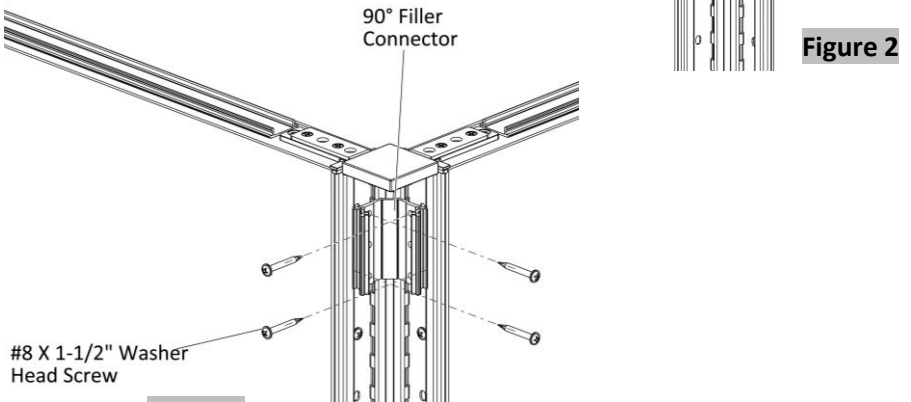

Figure 2
3. Position the 90-degree top connector with a cap on the top corner of the panel which is to be connected, (Figure 2).